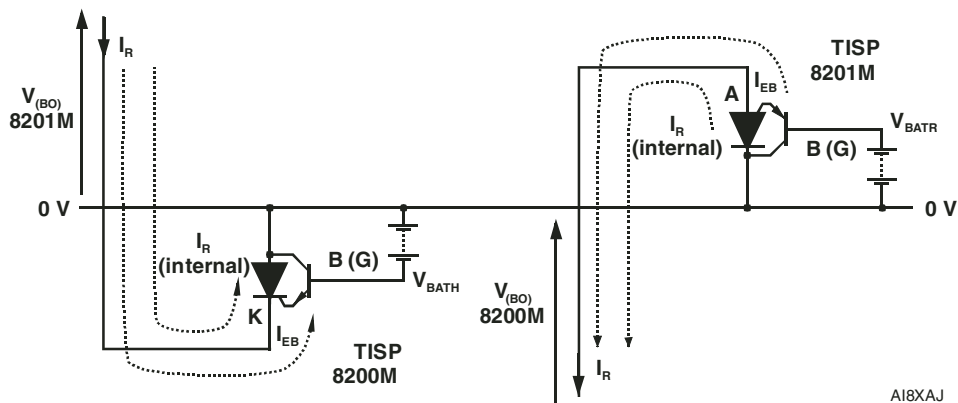

Figure 7. Reverse Current Verification
*Testing transistor EB and SCR AK reverse:* The highest reverse EB voltage and reverse AK voltage occurs during the overshoot period of the other protector. For the TISP8200M, the SCR has  $V_{BATR}$  plus the TISP8201M overshoot above  $V_{BATR}$ . The transistor EB has an additional  $V_{BATH}$  voltage applied (see Figure 7). The reverse current,  $I_R$ , flowing into the K terminal will be the sum of the transistor  $I_{EB}$  and the actual internal SCR  $I_R$ . The reverse voltage applied to the K terminal is the TISP8201M protection voltage,  $V_{(BO)}$  ( $V_{BATR}$  plus overshoot), and the G terminal has  $V_{BATH}$ . Similarly for the TISP8201M,  $I_R$  is measured with the TISP8200M  $V_{(BO)}$  applied and it is the sum of the transistor  $I_{EB}$  and the actual internal SCR  $I_R$ .  $V_{BATR}$  is applied to the G terminal.